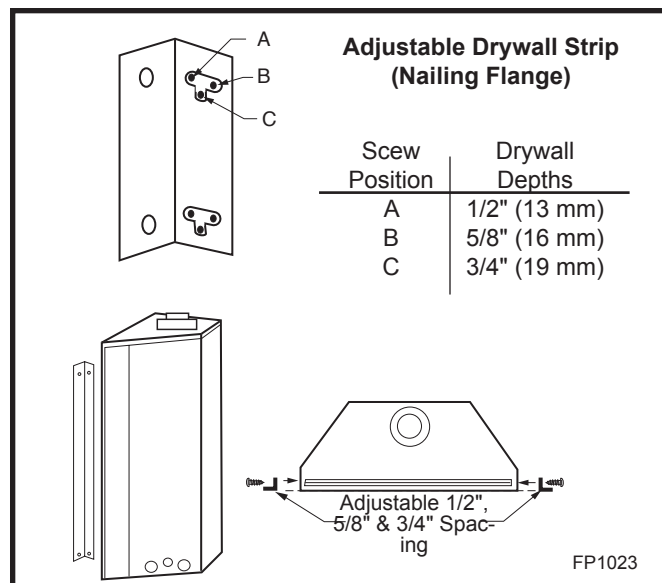

Fig. 6 Adjustable drywall strip (nailing flange).
4. Attach heater to frame using adjustable frame drywall strips (located behind access door for shipping). Preset depth to suit facing material (adjustable to 1/2", 5/8" or 3/4" depths). (Fig. 6)
5. Use existing screws in side of unit to attach drywall strip. Measure from face of heater to face of drywall strip to determine final depth. (Fig. 6)